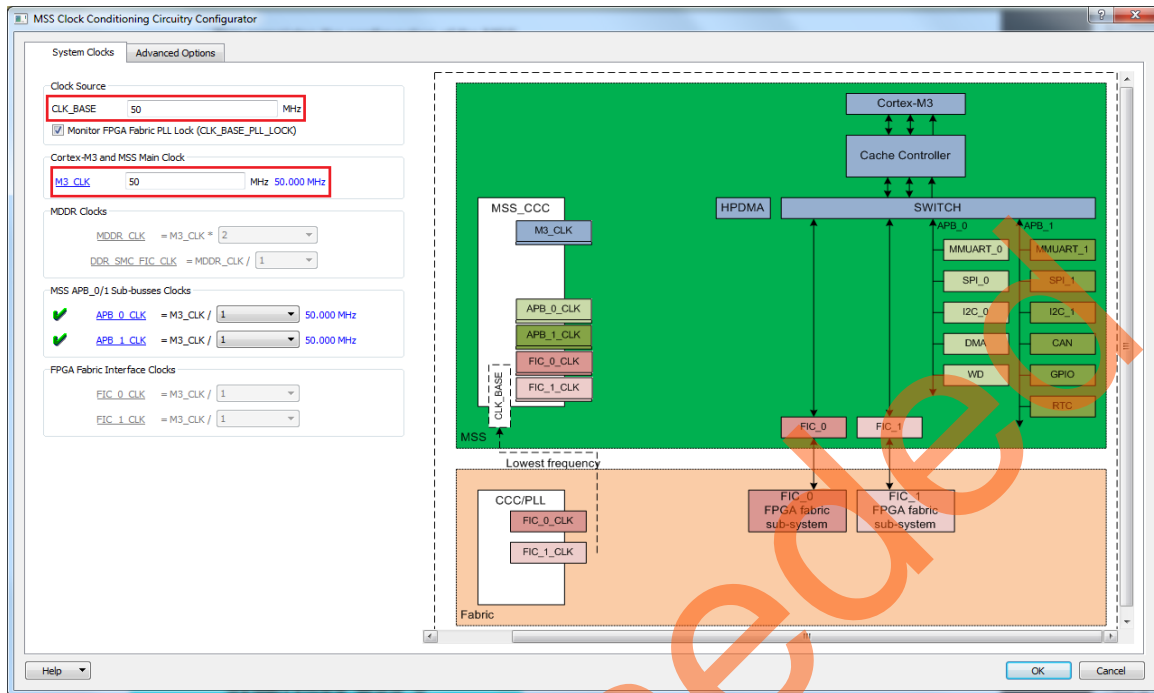

Figure 12 • MSS Clock Conditioning Circuitry Configurator
13. Double-click **MSS_CCC** block to configure as shown in Figure 12 on page 13: